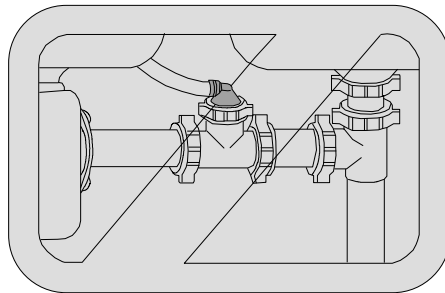

FIG. 10
*For best results: Do not install an ET112-002 on the horizontal pipe coming straight out of the disposal (See Fig. 10). If the vertical tailpiece is too short, use an ET116-002.*